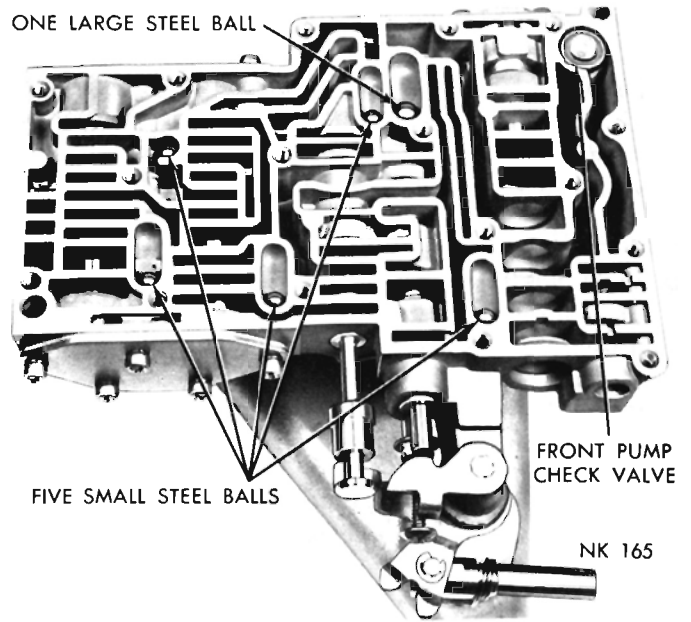
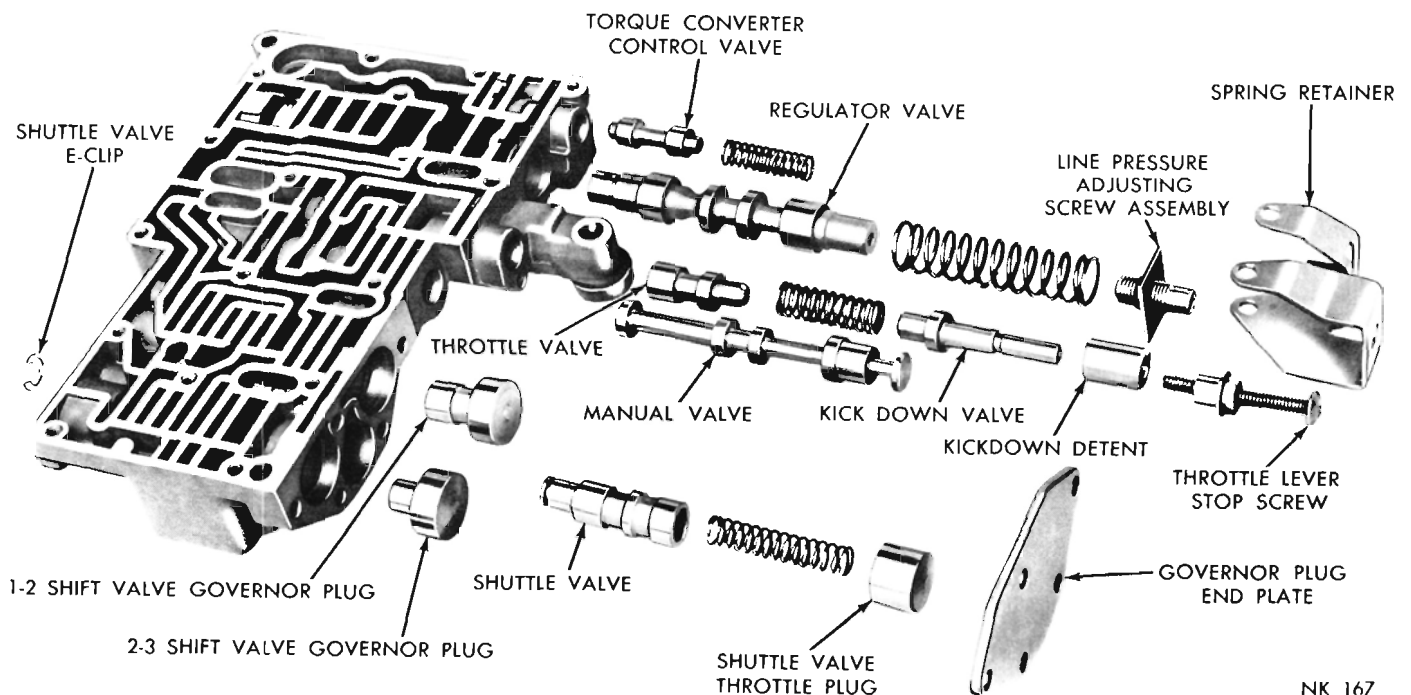
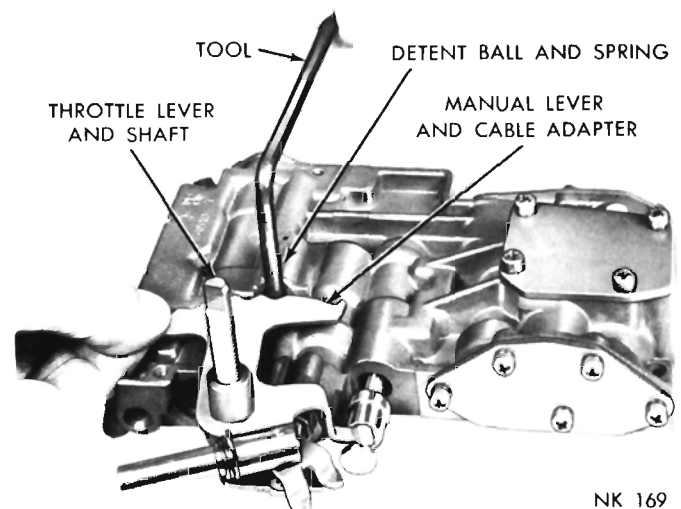

Fig. 73—Front Pump Check Valve and Steel Ball Locations
Fig. 75—Valve Body—Lever Side (Disassembled)
Fig. 77—Installing Detent Ball, Spring and Manual Lever
larger chamber (Fig. 73). Remove the steel balls, front pump check valve and spring.
(13) Remove the throttle lever stop screw assembly (Fig. 75), be careful not to disturb the setting any more than is necessary.
(14) Remove the kickdown detent, kickdown valve, throttle valve spring and the throttle valve (Fig. 75).
(15) Remove the governor plug end plate (Fig. 75). Tip up the valve body to allow the shuttle valve throttle plug, spring, shuttle valve, and the shift valve governor plugs to slide out into your hand.
(3) Place the 1-2 and 2-3 shift valve governor plugs in their respective bores (Fig. 75). Install the shuttle valve, spring and shuttle valve throttle plug. Install the governor plug end plate and tighten the five retaining screws to 28 inch-pounds torque.
(4) Install E-clip on end of the shuttle valve (Fig. 75). Install the shuttle valve cover plate and tighten the four retaining screws to 28 inch-pounds torque.
(7) Install the throttle valve and spring (Fig. 75). Slide the kickdown detent and the kickdown valve (counterbore side of detent toward valve), then install the assembly in the valve body.
(8) Install the throttle lever stop screw (Fig. 75), and tighten the lock nut finger tight.
(9) Install the manual valve in the valve body (Fig. 75).
(10) Install the throttle lever and shaft on the valve body (Fig. 77). Insert the detent spring and ball in its bore in the valve body. Depress the ball and spring with Tool C-3765 or similar tool and slide the manual lever over the throttle shaft so that it engages the manual valve and detent ball. Install the retaining E-clip on the throttle shaft.
(11) Position the valve body assembly on the holding stand.
(12) Place the six steel balls in the valve body chambers with the large ball in the large chamber (Fig. 73). Place the front pump check valve and spring in the valve body.
(13) Position the transfer plate assembly on the valve body. Install the 14 retaining screws, starting at the center and working outward, tighten the screws to 28 inch-pounds torque.
(14) Install the torque converter valve and the regulator valve (Fig. 75).